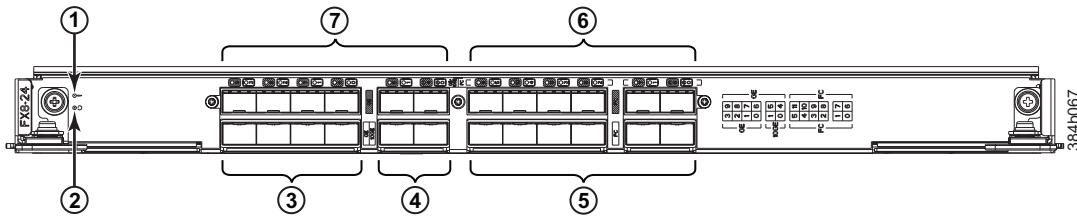

Figure 62. FX8-24 extension blade
- Figure 62 on page 159 shows an FX8-24 extension blade